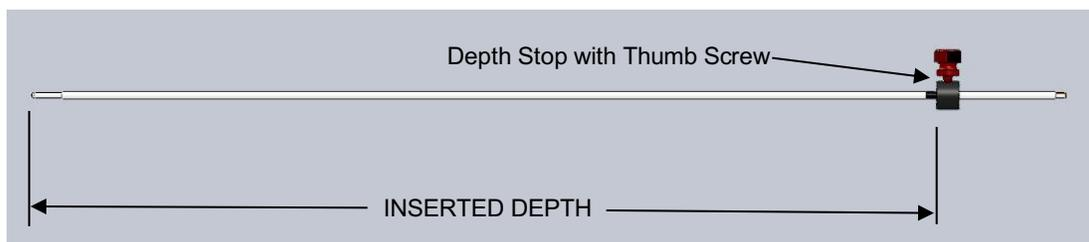

Figure 183: Stylet with Depth Stop attached to the Insertion Depth
- When utilizing the Depth Stop, the inserted depth of the Stylet is defined by the distal side face of the Depth Stop to the distal tip of the Stylet. **See Figure 183.** Slide the Stylet into Device Lock until Depth Stop rests on top of Device Lock. Then tighten Device Lock. Confirm the length using the Ruler.